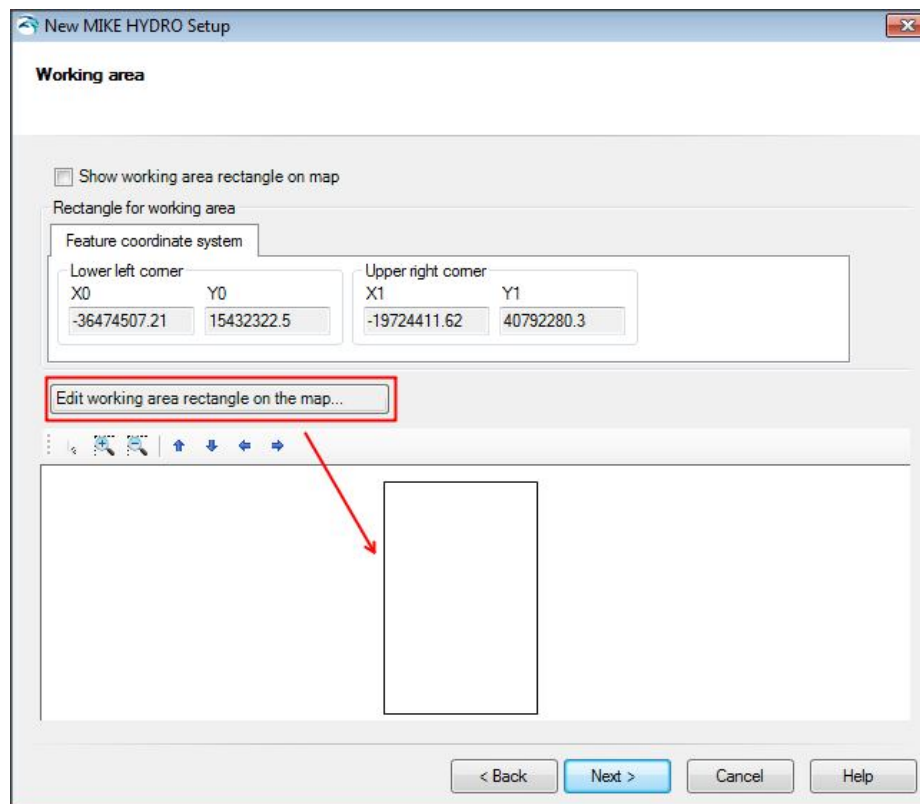
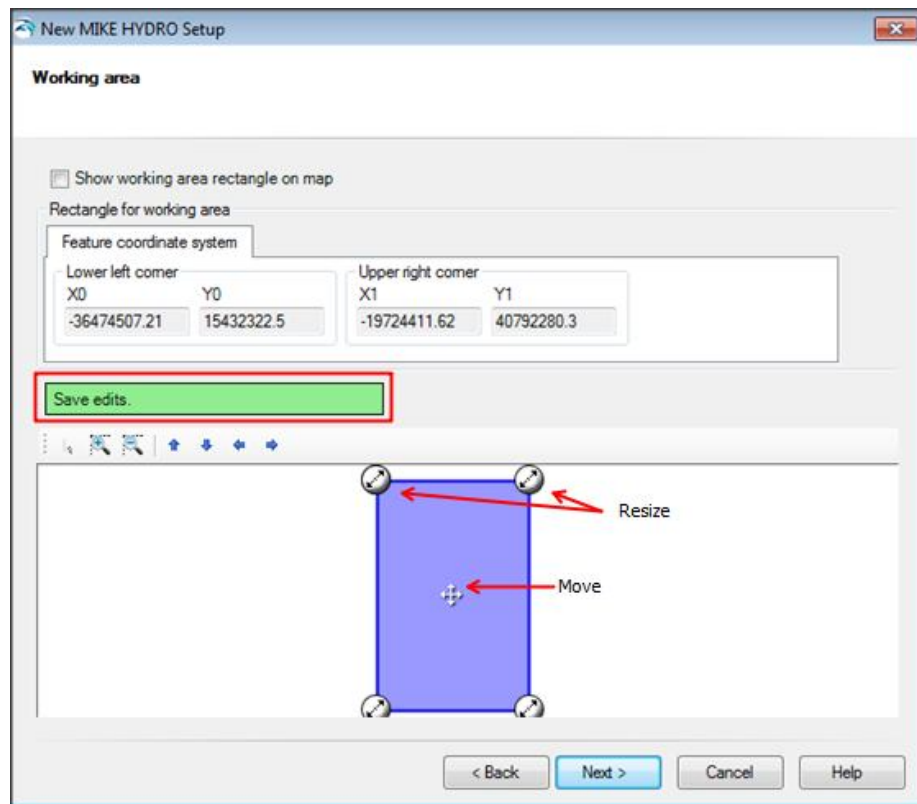

Figure 12: Working area dialog
Figure 13: Editing and saving a working area
- **Working Area:** The Working Area dialog appears (Figure 12). A working area may be defined by clicking 'Draw working area as rectangle on the map' and dragging a rectangle on the map. Once defined, the working area may be edited (and edits must be saved) but it cannot be deleted (Figure 13). To show the working area in Map view, enable 'Show working rectangle on map'. If no working area is defined, the maximum extent of features is used as default working area. In this case define a suitable working area and save. Press 'Next' and then 'Finish' to close the wizard.